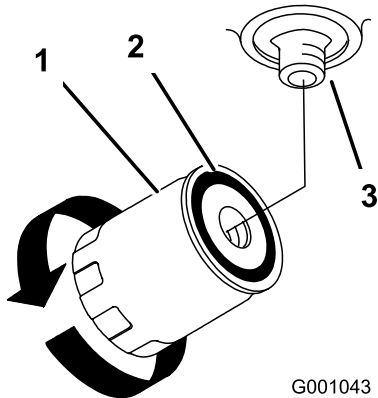

Figure 79
7. Apply a thin coat to the rubber gasket on the replacement filter (Figure 79).
9. Fill the hydraulic tank with hydraulic fluid until the fluid overflows the filter and then turn the oil filter clockwise until the rubber gasket contacts the filter adapter, then tighten the filter an additional 1/2 turn (Figure 79).